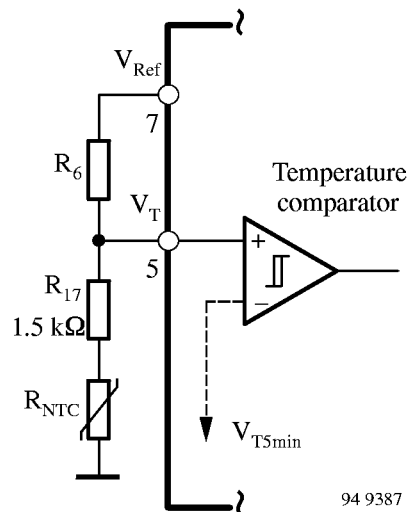

Figure 14. Temperature comparator
**Temperature comparator** figure 14